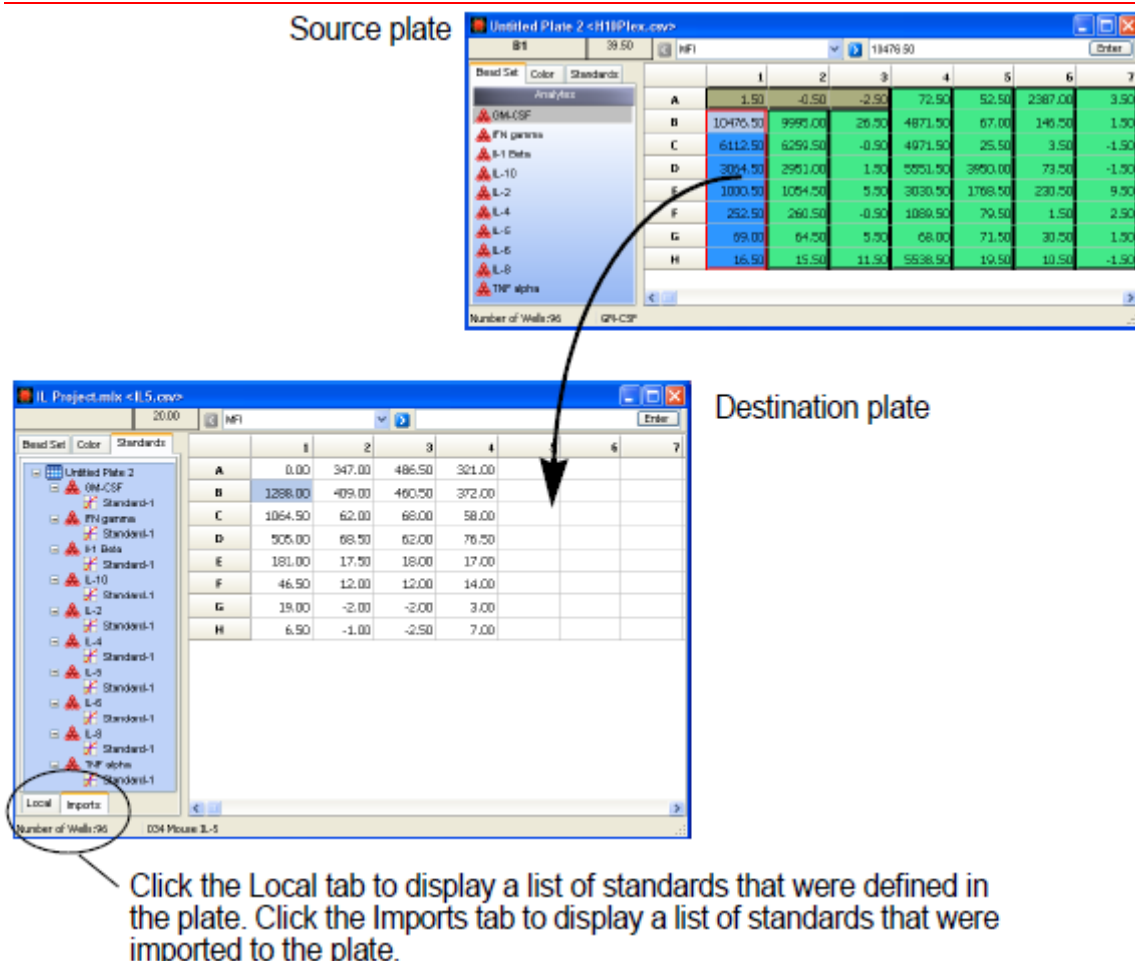

Figure 5.19 Standard curves can be exported
- ⇒ The Standard Curves window displays a list of the standard curves imported from the source plate (Figure 5.19).